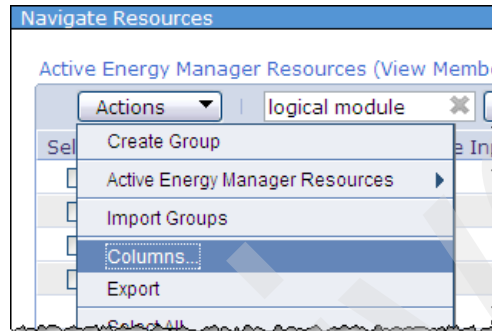

Figure 8-28 Changing the field setting in the Navigate Resources table
2. To change the field setting, click **Actions**, and then click **Columns** as shown in Figure 8-28.